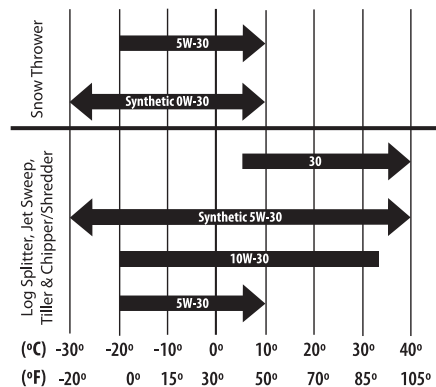

Figure 6-1
Refer to the viscosity chart ("Figure 6-1") for oil recommendations. Do not over-fill. Use a 4-stroke, or an equivalent high detergent, premium quality engine oil certified to meet or exceed U.S. automobile manufacturer's requirements for service classification of a minimum level SF or SG (higher letter ratings are acceptable such as SJ, SL and SM grades). Engine oil will display this designation on the container.
12. Fill with the recommended Oil. See Figure 6-1.